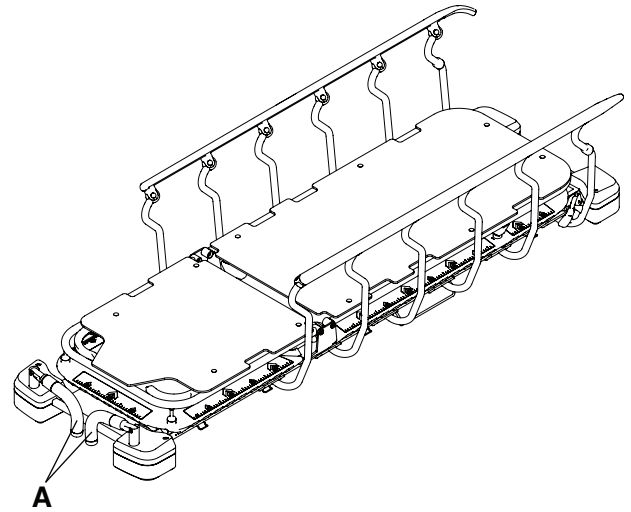

**Figure 8 – Stowing the head end push handles**
4. Reverse steps to stow the head end push handles (A) (Figure 8).